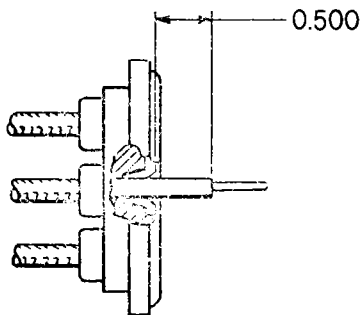

Figure 4-5. Measuring Wire from Top of Ferrule
f. Measure 1/2 inch from top of ferrule and strip remaining insulation from wire. Figure 4-5.